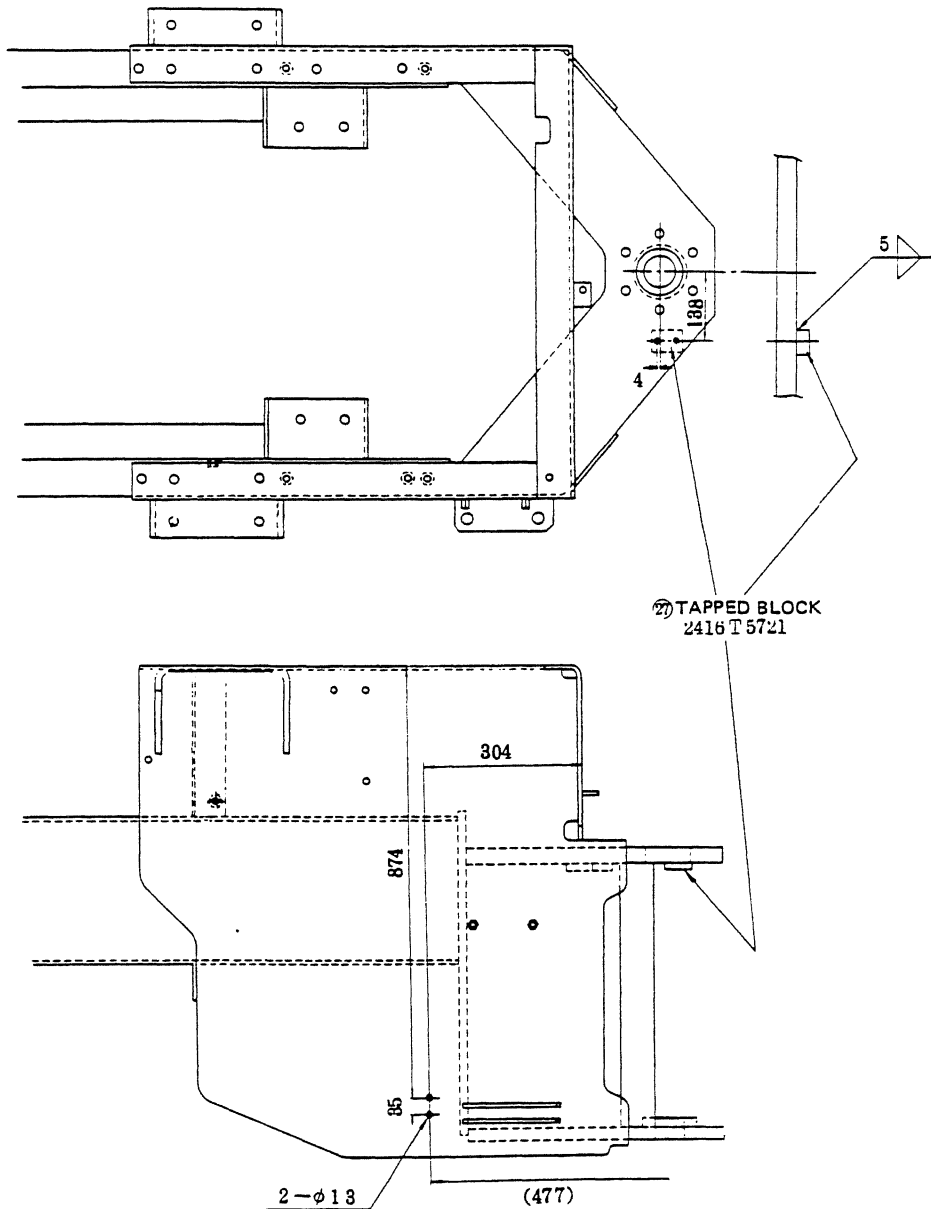

Fig. 2-4
(1) REAR FRAME
- (a) Make two 13mm holes. (See Fig. 2-4)
- (c) Weld tapped block (27) (2416T5721). (Fig. 2-4)